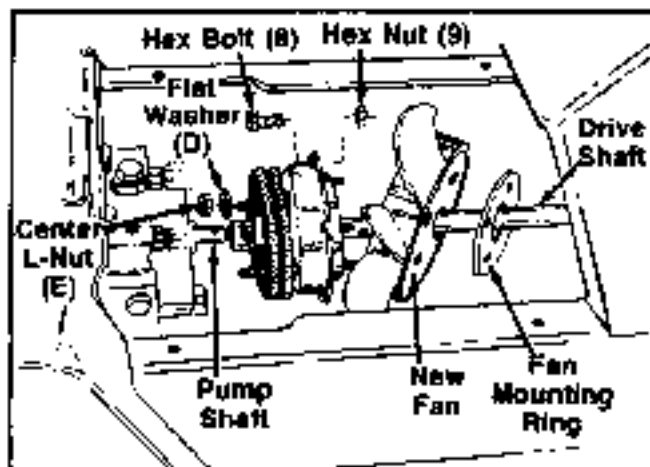
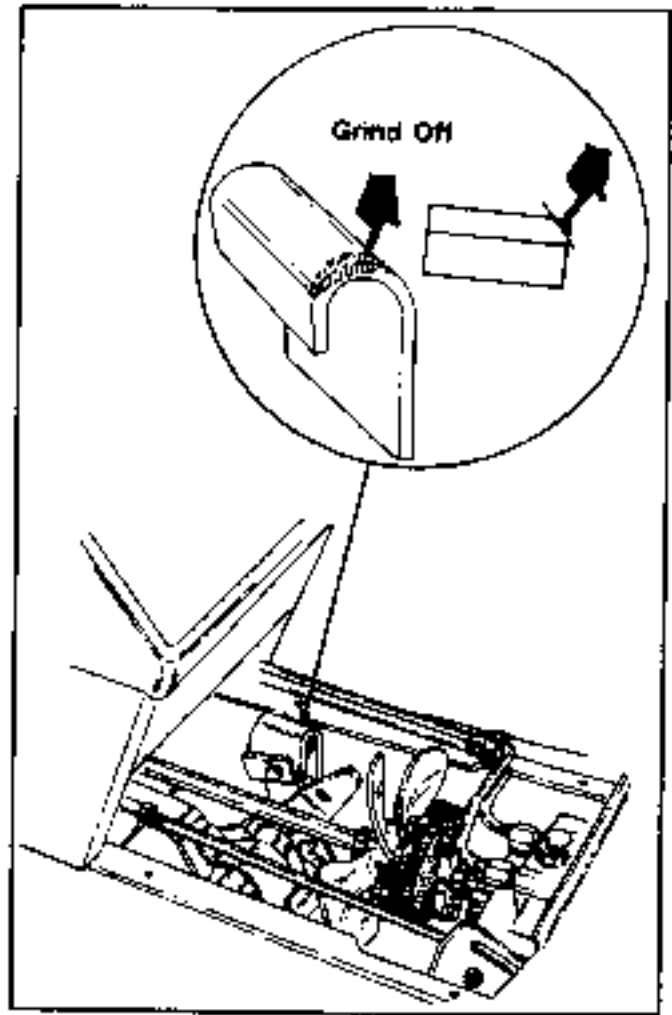

FIGURE 9.
FIGURE 11.
12. Remove (2) hex bolts (Ref. 8) and hex nut (Ref. 9) from clutch assembly, shown in figure 9.
16. Place front of drive shaft through coupling ①, flexible rubber discs and into alignable coupling as far forward as possible.
17. Insert a 1/4-20 bolt into coupling ① and line up hole in drive shaft.
18. Install coupling ③ with flexible discs onto drive shaft, and align (2) holes in flexible discs with bolts on rear clutch cover. See figure 9.
19. While holding clutch coupling and flexible disc assemblies together, line up with pump shaft and slide onto pump shaft. See figure 9.
25. Slide front clutch cover rearward and align four mounting holes with rear clutch cover and fasten securely with four hex bolts (H) and four hex patch nuts (G).
26. Assemble the two flat washers and lock nuts at rubber disc and rear clutch cover. Tighten securely. See figure 9.
27. Slide the new fan into position and secure with fan mounting ring and four hex patch nuts (C) (1/4-20 thread) provided in kit.
28. Move the lift unit on tractor to the highest position and check fan clearance at lift bracket. Grind off lift bracket if necessary. See figure 11